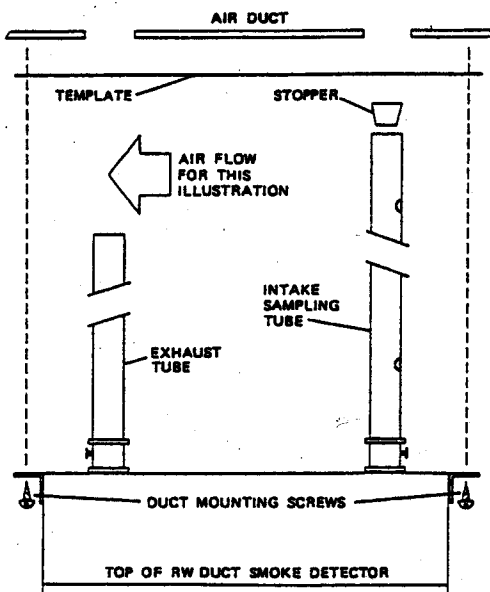

FIG. 1 DETECTOR MOUNTING
**I. MOUNTING THE DETECTOR (See Figure 1) CAUTION —** To prevent false alarms the detectors should not be mounted in areas of extreme high or low temperatures, in areas where high humidity exists, in areas where duct air may contain gases or excess dust. Refer to NFPA 90A, 72E, and 101.
#### E. DETECTOR MOUNTING (See Figure 1 & 2) (Ionization Models for side mount only)